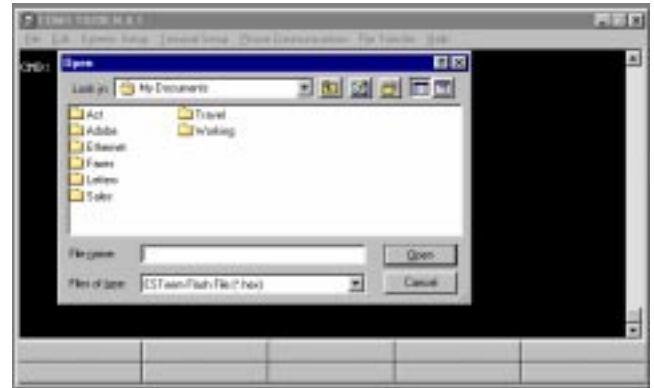

Figure 2: Updating Flash Memory
5. Select *ESTeem Setup>Update Flash Memory* from the menu and the Utility will read information about the connected modem and ask for the location of the flash file (Figure 2). Browse to the location of the flash update file on the computer and select Open.